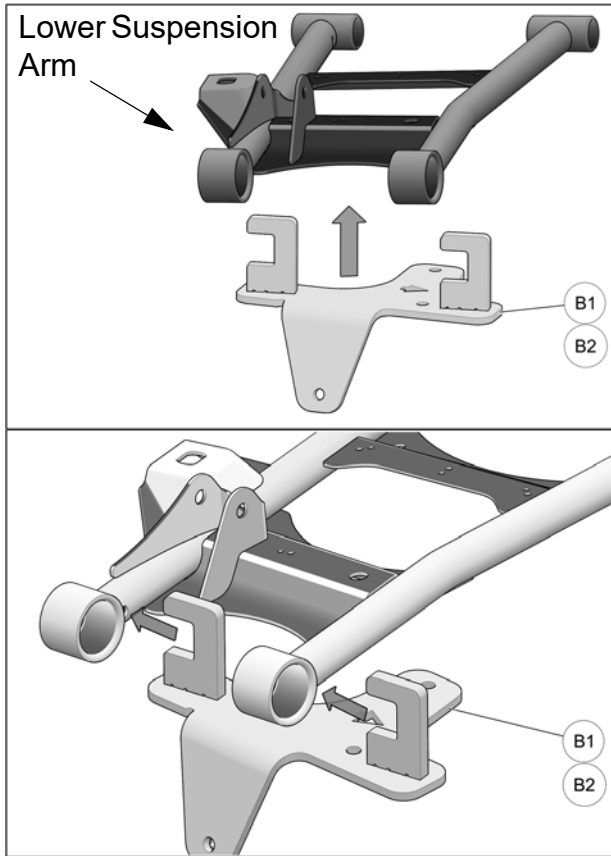

Fig. 3
- Position anchor bracket (**B1-B2**) under lower suspension arm; C-shaped openings on bracket must be installed on suspension arm tubes. Refer to See Fig. 3